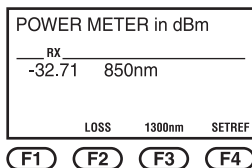

Figure 6-3. Manual Power Meter mode.
4. Select the **F3** button, which toggles between **850** and **1300 nm** wavelengths (see Figure 6-3).